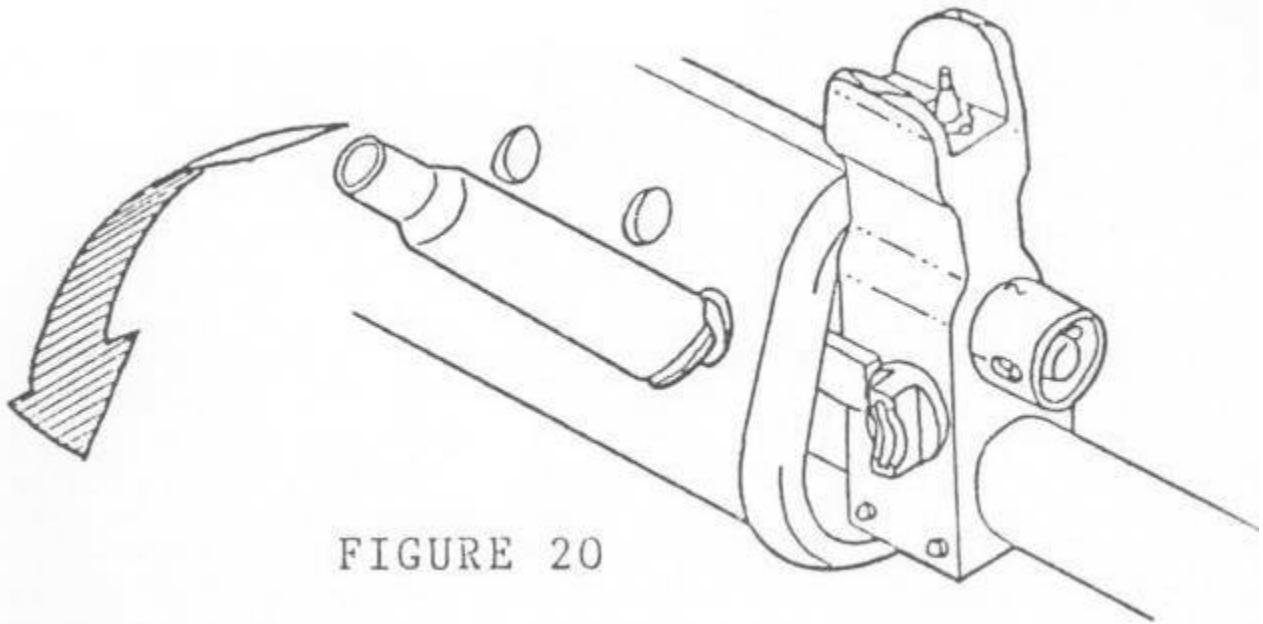

FIGURE 20
12. To remove the handguards, place the rim, of a standard cartridge of the appropriate caliber for your rifle in the slot of the screw in the right forearm of the rifle. Unscrew the screw and remove it completely from the forearm assembly. At this time, the forearms will be able to be lifted away from the front sight assembly, and then forward and away from the rifle to remove. (See Figure 20).